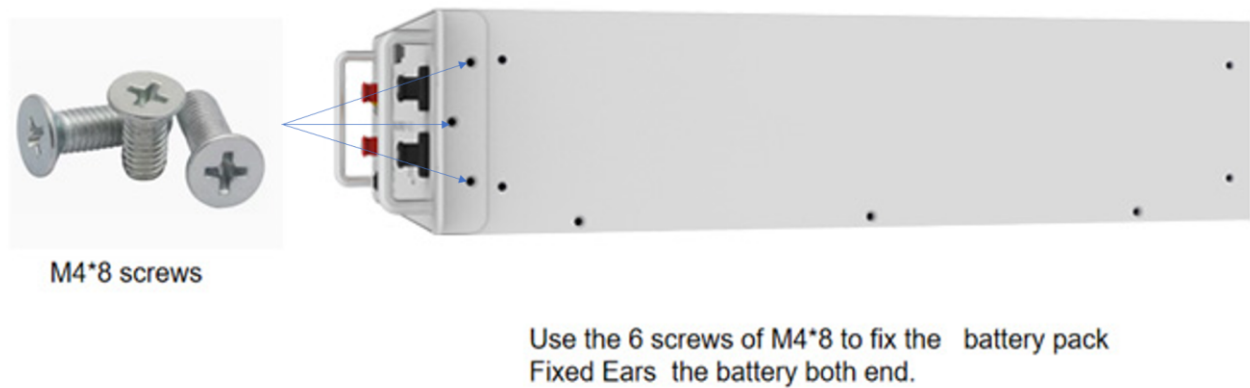

Figure 4-2
- a) Use the 6 screws of M4*8 to fix the battery pack Fixed Ears the both sides battery, as show in Figure 4-2.